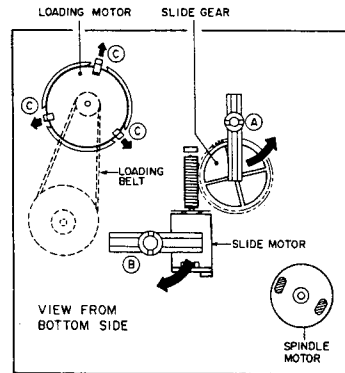

Fig. 3-4
- 1) Turn the ④ GEAR HOLDER LEVER counter-clockwise (Fig. 3-4), then pull out the SLIDE GEAR.
- 1) Remove the LOADING BELT, then remove the LOADING MOTOR while releasing the ③ hooks (Fig. 3-4).
- 1) Turn the ⑥ SLIDE MOTOR HOLD LEVER (Fig. 3-4) clockwise, then pull out the SLIDE MOTOR.